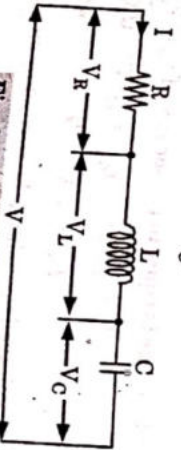

Fig. 2.15.1. Circuit Diagram.
1. Consider an AC circuit containing resistance of R ohms, inductance of L H and capacitance of C F connected in series, as shown in Fig. 2.15.1.